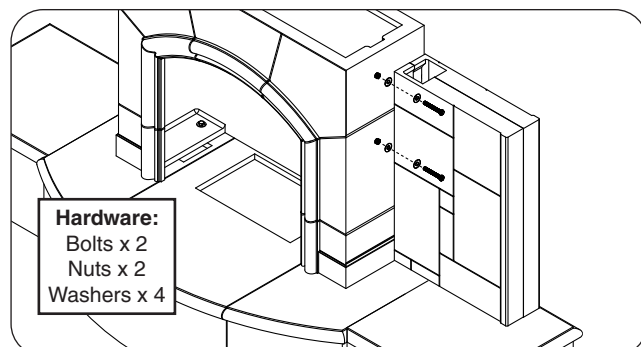

Fig. 25-2 Assemble front side-wall (skip if n/a)
3. Place the front side-wall piece beside the fireplace body as shown. Carefully align the pilot holes, and repeat the hardware installation process. See Fig. 25-2.